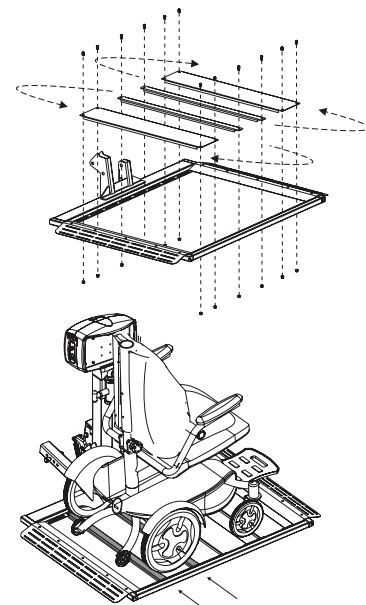

Figure 6-9
2. Position the power chair onto the platform. Verify that the power chair is secure and does not move in any direction once positioned between the cradles and on the platform skins. See Figure 6-9.